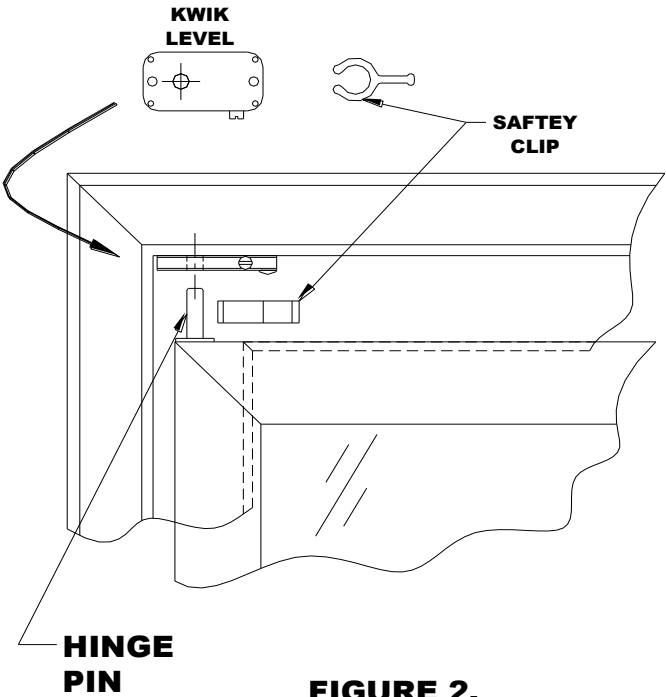

FIGURE 2.
- Press down on the spring loaded Hinge Pin, while moving the door back into the frame door opening until the Hinge Pin clicks in the top door hinge. (Figure 2)
- Install black plastic Safety Clip in gap between top of door and Kwik Level on Hinge Pin. (Must be installed to prevent door from falling out of frame) (Figure 2)**